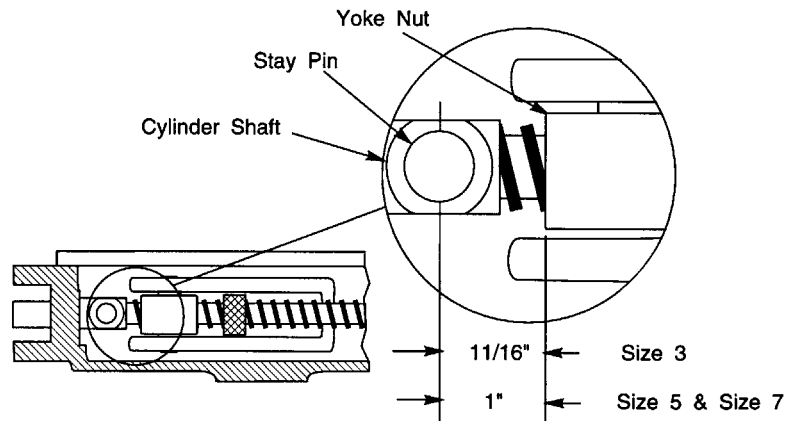

Figure 1 – Distance from Stay Pin Hole to Yoke Nut
1. Screw the cylinder into the yoke nut and stop nut. Figure 1 shows the correct distance from the stay pin hole to the yoke nut.